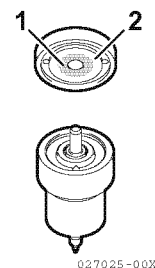

Figure 7-30
6. Inspect the sealing surfaces (**Figure 7-30, (2)**) between the valve stop spacer and nozzle body for nicks or scratches. Check the contact area between the valve stop spacer and the nozzle valve (**Figure 7-30, (1)**) for scoring or pitting. Use a magnifying glass to inspect.